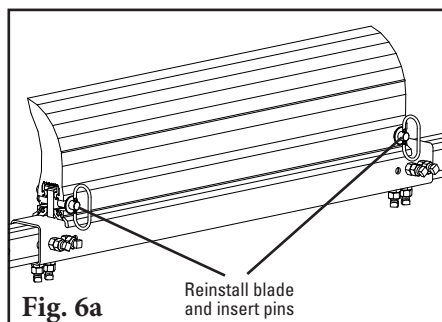
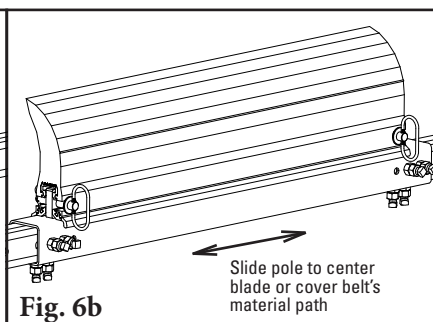

Fig. 6a
Fig. 6b
6. **Center the cleaner on the belt and lock in place.** Reinstall the blade (Fig. 6a). Slide the pole until the blade is centered or covers the material path (Fig. 6b).